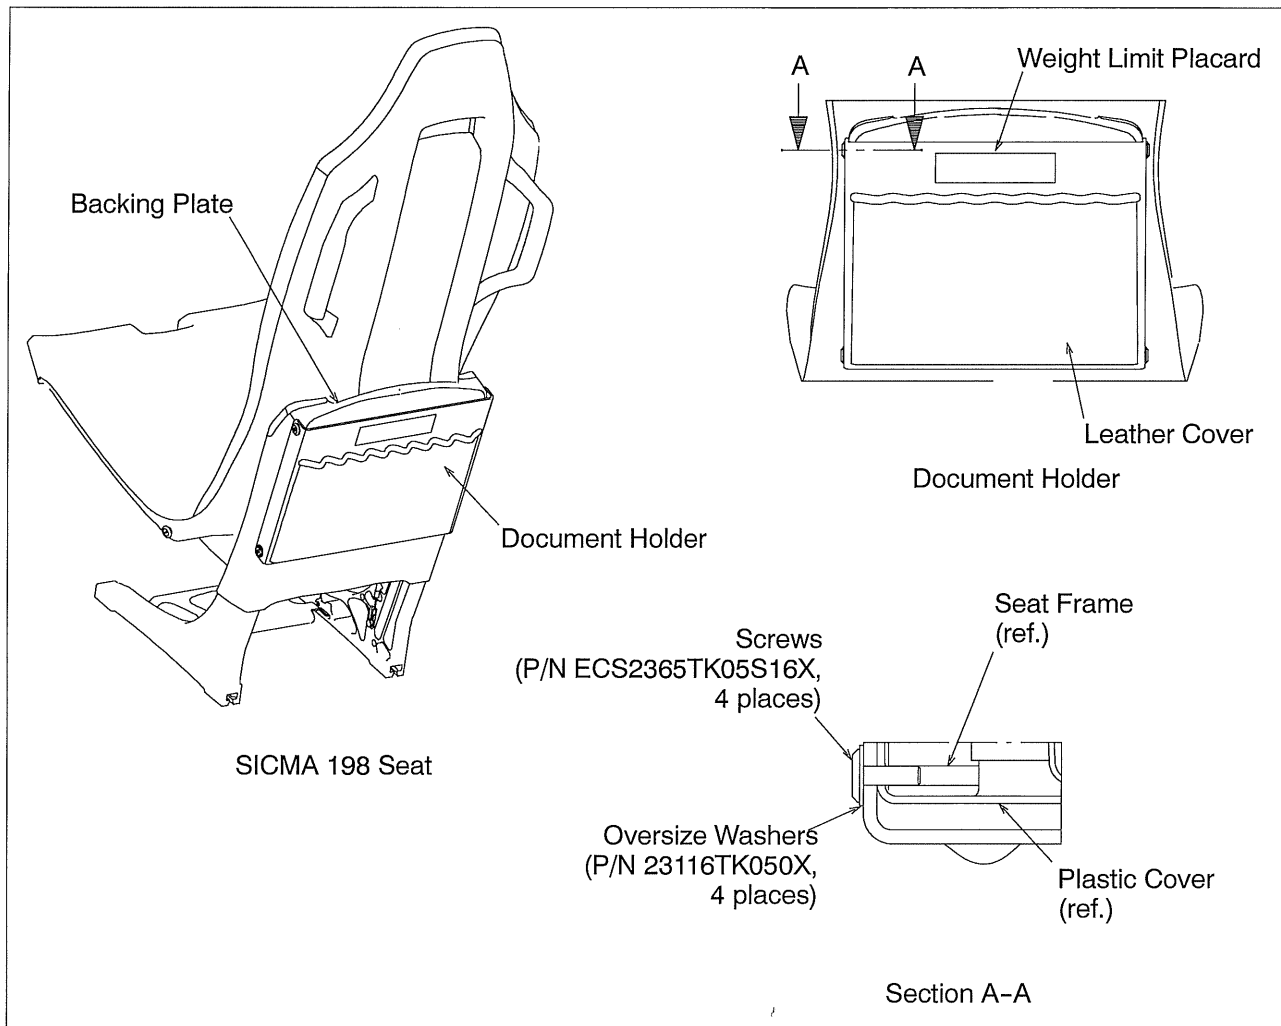

Figure 1 Document Holder for SICMA 198 Seat
Refer to Figures 1 and 2 for Layout and Details.
- 1) DOCUMENT HOLDER for SICMA 198 SEAT (Refer to Figure 1)
- 1) DOCUMENT HOLDERS for SICMA 198 SEAT (Refer to Figure 1)